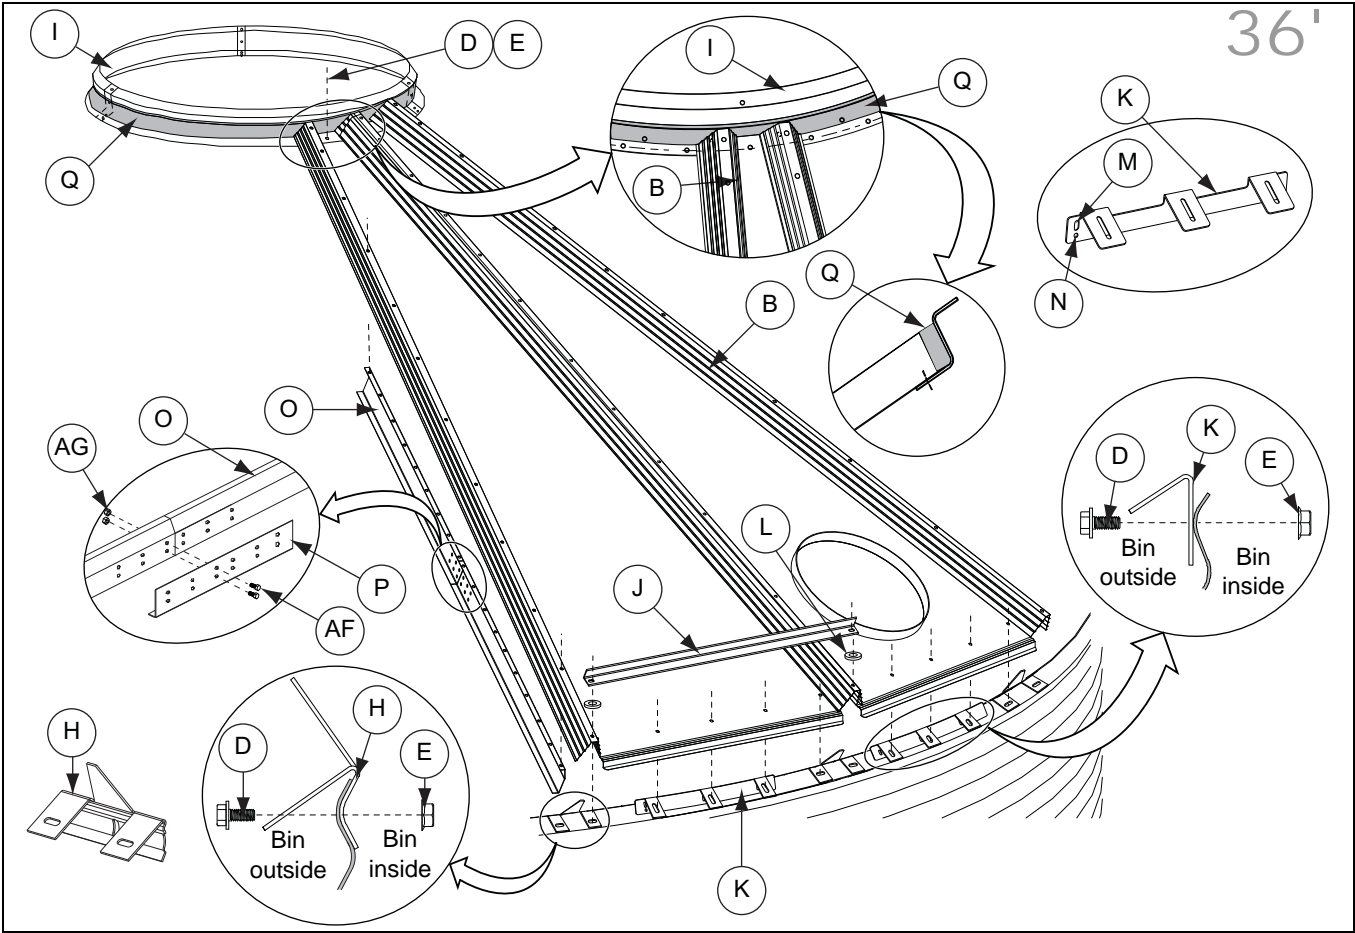

Figure 9K Roof Panel Assembly (36' Diameter Bin)
NOTE: For 36' diameter bins, the gap between the intermediate center collar (I) and the roof panels (B) will be sealed with foam sealant (Q) around the center collar. (See Figure 9K.)